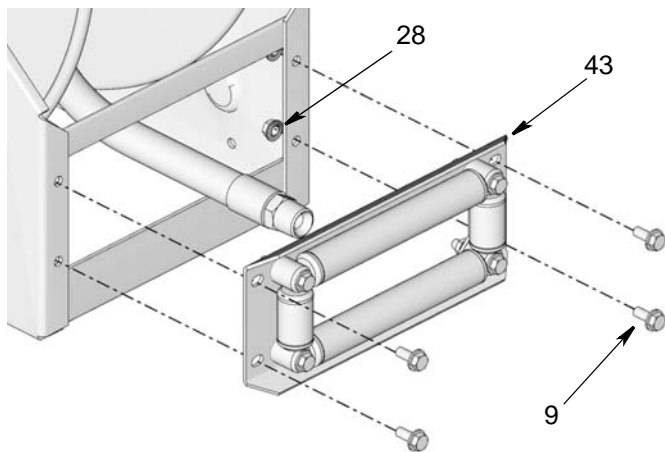

FIG. 73
2. Align plate (43) with front of hose reel base (FIG. 73).
3. Replace screws (9) and nuts (28) (FIG. 73).